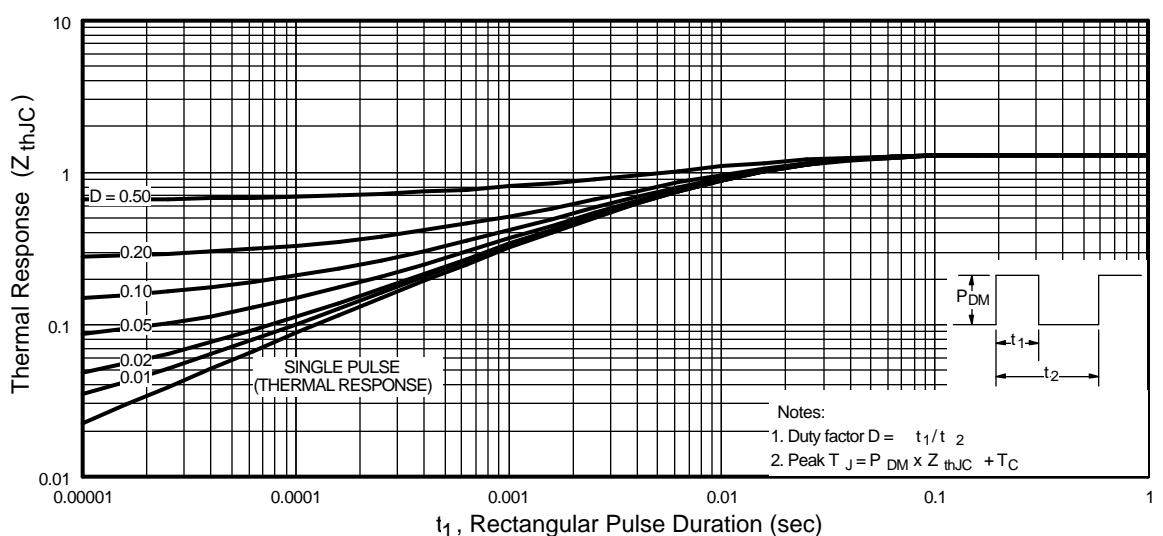

Fig 11. Maximum Effective Transient Thermal Impedance, Junction-to-Case
- ① Repetitive rating; pulse width limited by max. junction temperature. (See fig. 11)
- ② Starting $T_J = 25^\circ\text{C}$, $L = 410\mu\text{H}$